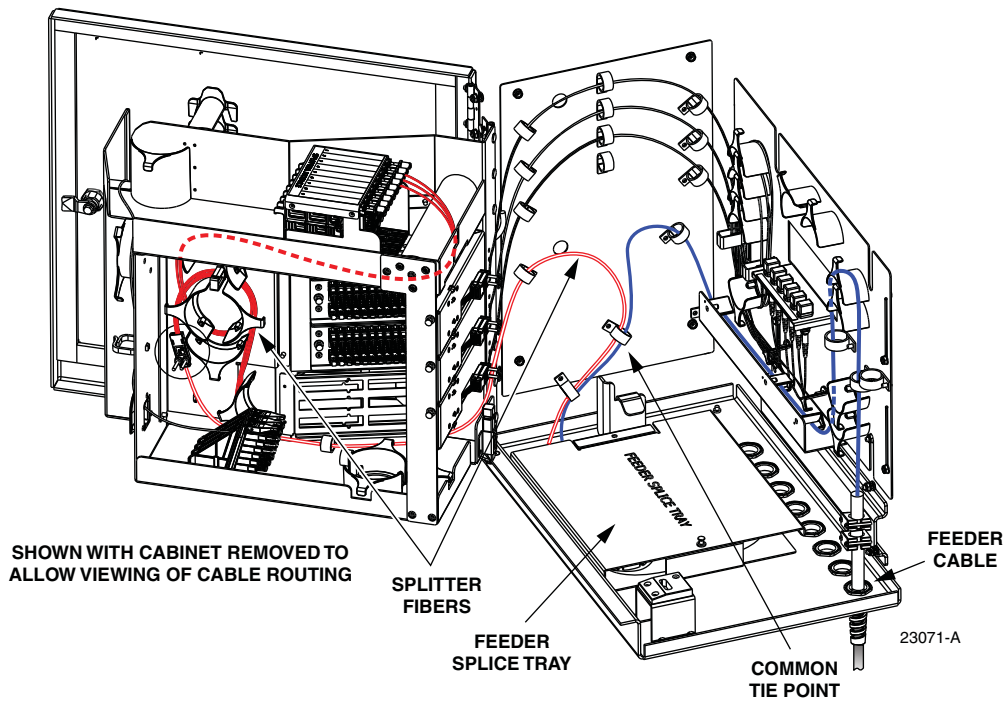

Figure 39. Feeder Splice Tray and Feeder/Splitter Fiber Routing
1. Locate the feeder splice tray mounted on the bottom of the cabinet, as shown in Figure 39, and locate the splitter fibers which are routed to the feeder splice tray.